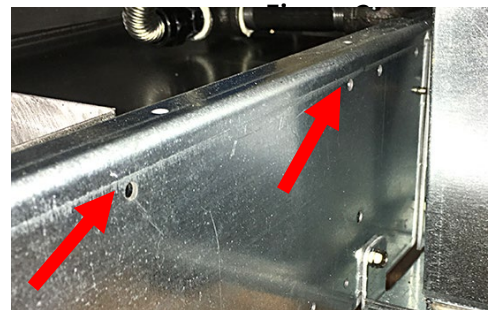

Figure 4
6. Locate the OQS sensor assembly mounting holes. The gas attaches to pre-drilled holes towards the front (see Figure 3). The electric attaches to the rear holes (see Figure 4). The electric attachment will require loosening the FIB box.